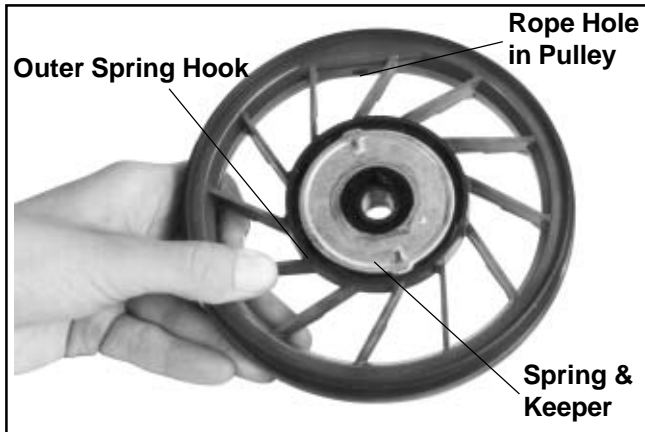

Figure 7-7. Position of Spring and Keeper in Pulley.
- Note the position of the spring and keeper assembly in the pulley. See Figure 7-7.
- Make sure the spring is well lubricated with grease. Place the spring and keeper assembly inside the pulley (with spring towards pulley). See Figure 7-7.